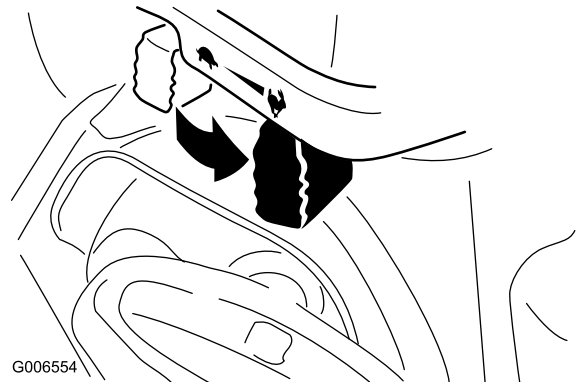

Figure 31
6. Move the throttle to the Fast position (Figure 31).